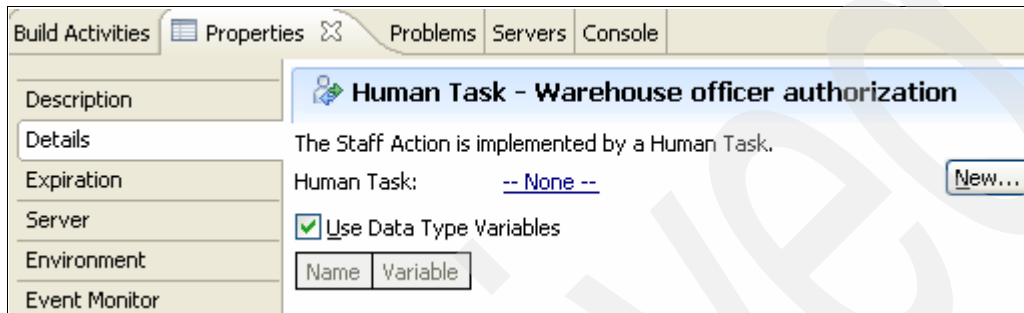

Figure 3-134 In-line warehouse task
3. Go to the Details tab in the Properties view. Click **New** as shown in Figure 3-134.